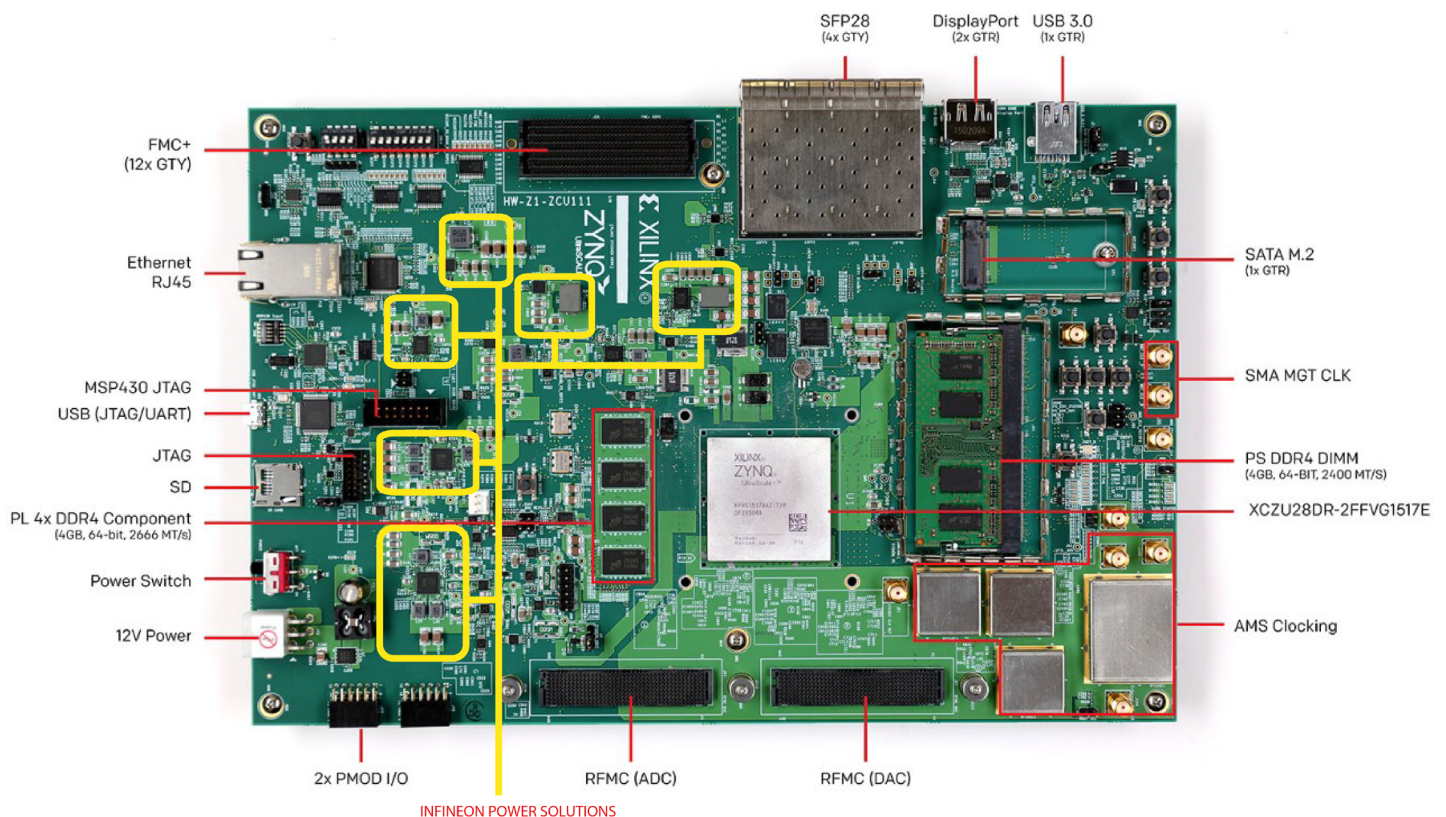

Figure 5: Infineon power solution for Zynq UltraScale+ RFSoc, Zu28 --- ZCU111
- > Power solution for the ZCU111 (see Figure 5) Schematics, BOM, Layout and Performance Data Available from both Xilinx and Infineon sites
Xilinx offers the ZCU111 Evaluation Kit with complete designs using Infineon's power solutions (Figure 5 below)